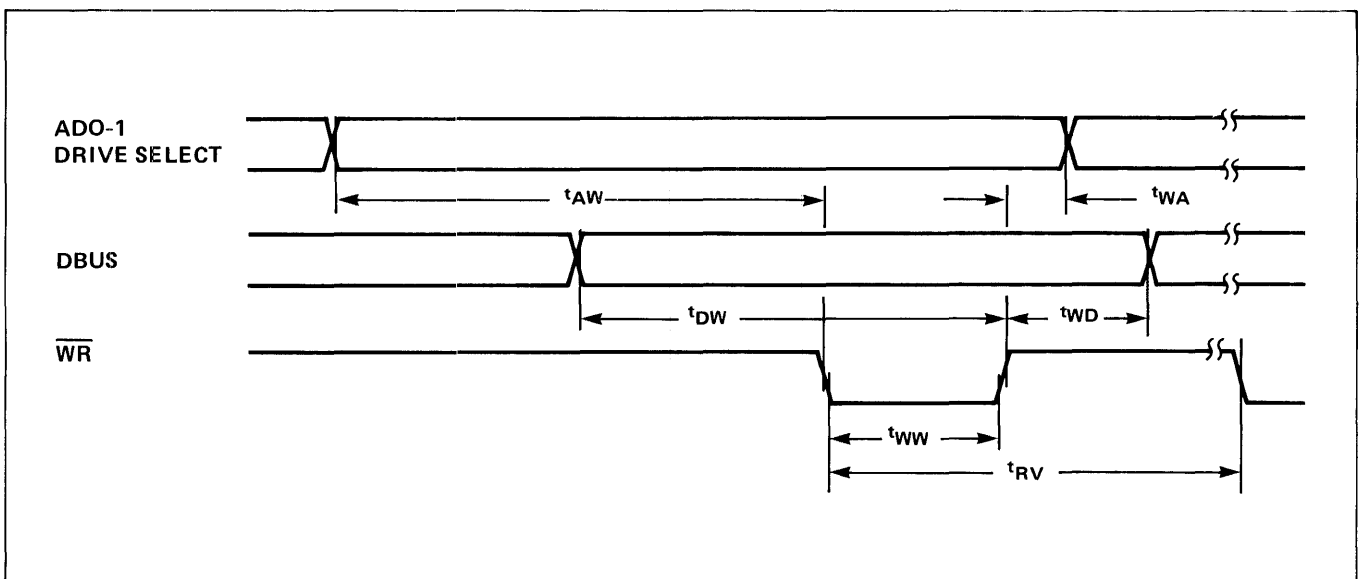

Figure 4-15. Register Load Timing
1. *Register Load Timing* Register load timing is shown in Figure 4-15. The AC characteristics are listed in Table 4-20.